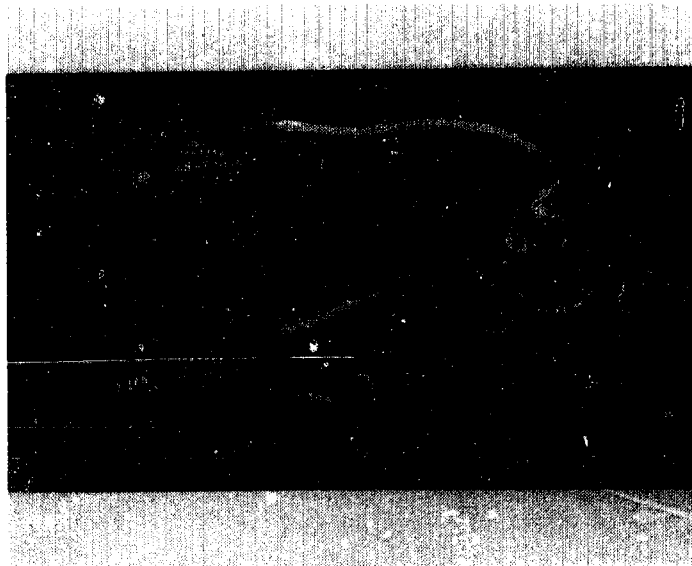

FIGURE 11
2. Reconnect the motor disconnect switch and the circuit breakers. The motor disconnect switch is a double pole switch and must be connected as follows. See Figure 11. The short jumper wire with a double disconnect terminal is connected across the two poles to make them common. The two remaining jumpers are each brought to a circuit breaker.
4. Connect the black leads from the linear actuators to the vacant terminals of the circuit breakers. Refer to Figure 11.